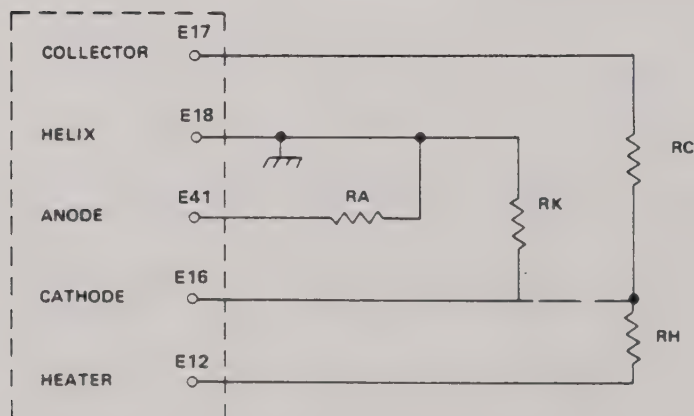

Figure 5.5-1 Resistive load.
Step 5 - Disconnect all TWT leads and connect resistive loads per Figure 5.5-1 or per Hughes 1607HA load bank.
Step 7 - Connect the resistive loads per Figure 5.5-1.